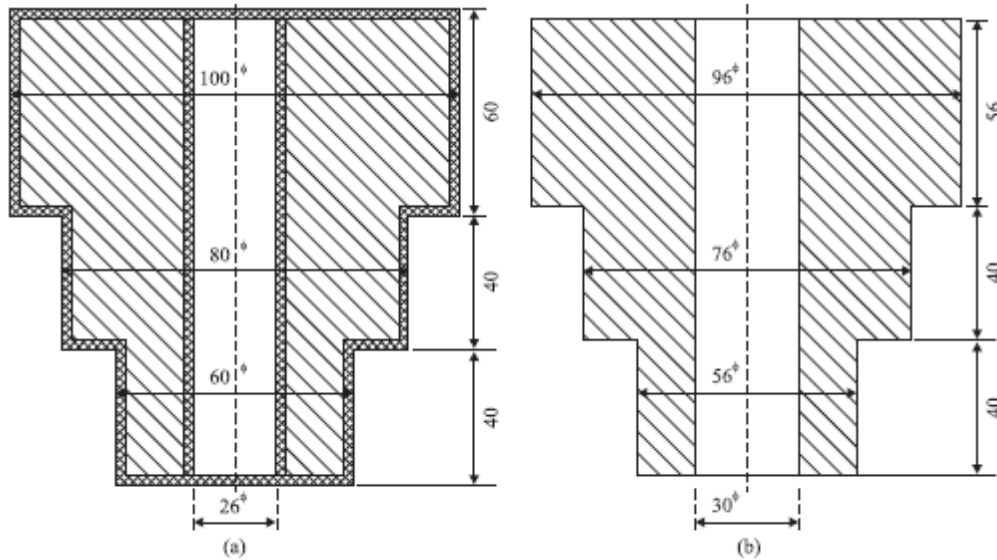

Fig. 5.2 (a) Component as cast, (b) Finished component (All dimensions are in mm).
- 2 (a) A cast iron component is to be manufactured as per Fig. 5.2. Estimate the selling price per piece from the following data : (8) BT2